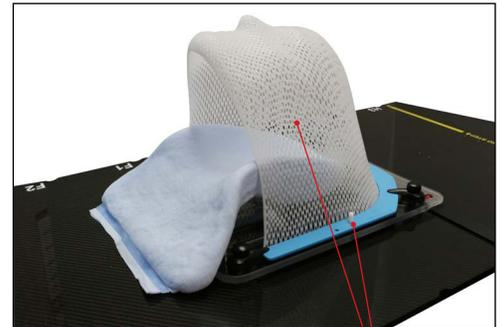

Fig. 3
1. Place the mask over the patient, lining up the 2 pins on the Headboard with the receiving holes on the mask (Fig. 3).